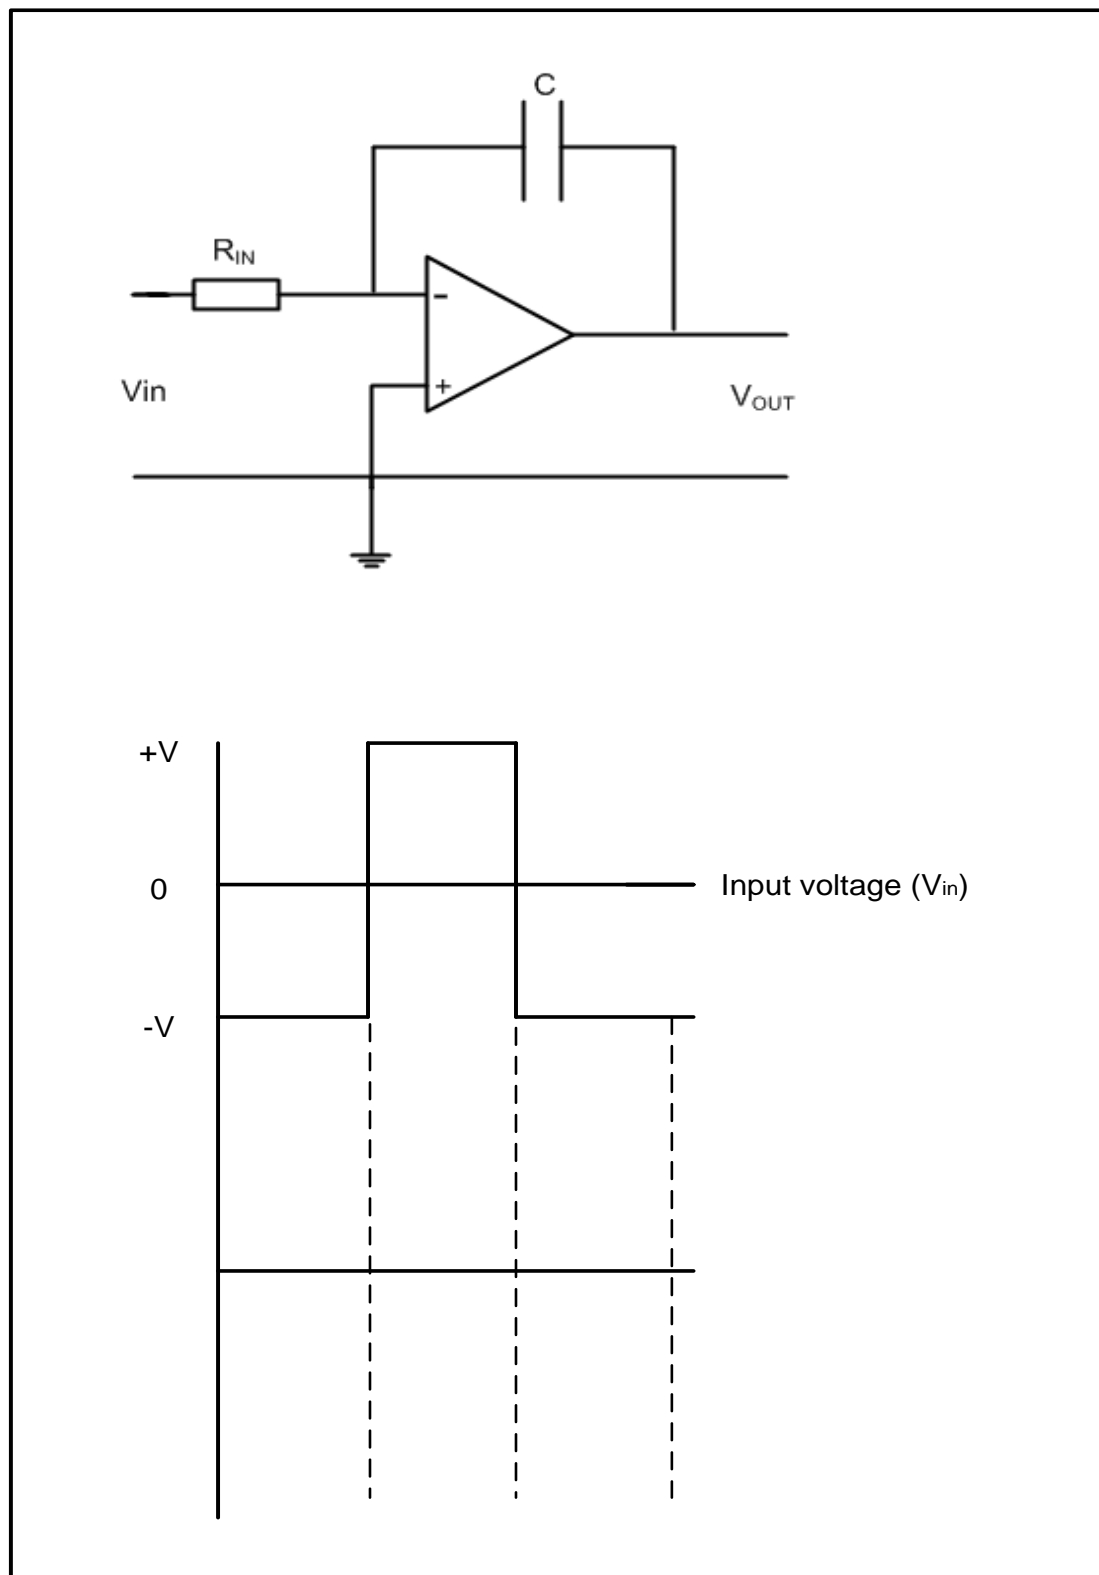

FIGURE 7.4: INTEGRATOR OP AMP CIRCUIT
7.8 Refer to FIGURE 7.4 below and answer the questions that follow.